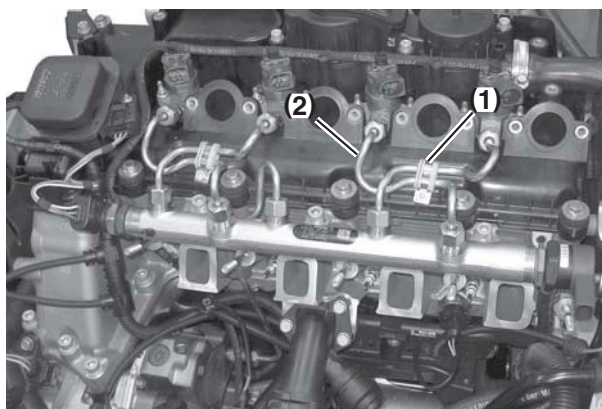

Figure 6-9
5. If removing only one fuel injector, remove the clamp (**Figure 6-9, (1)**) joining the fuel injector lines to each other. **NOTICE:** Immediately cap or plug all openings to prevent contamination of system.
6. Remove high-pressure fuel line (**Figure 6-9, (2)**) from injector and fuel rail. See *Remove and Install High-Pressure Fuel Lines on page 6-14*.